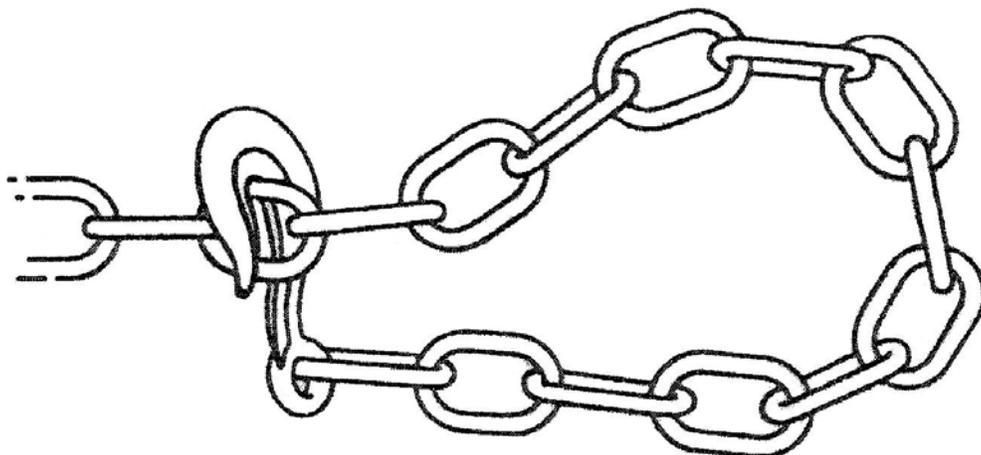

Figure 7-13. Chain Slings
Chain sling is not used for making heavy lifts for two reasons: (1) flaws are more difficult to detect in chain than in wire rope; and (2) the links in a chain big enough to carry our larger assemblies would be difficult to snake in and around some of the complex shapes that must be handled. Although chain slings have their limitations, they are useful for rigging in particular applications where heat and acids are present. One advantage of a chain which makes it very useful as a sling, is that it may be shortened by merely positioning a new link in the grab hook throat. Never place the point of the hook through the center of the link (see Figure 7-13 for correct attachment).